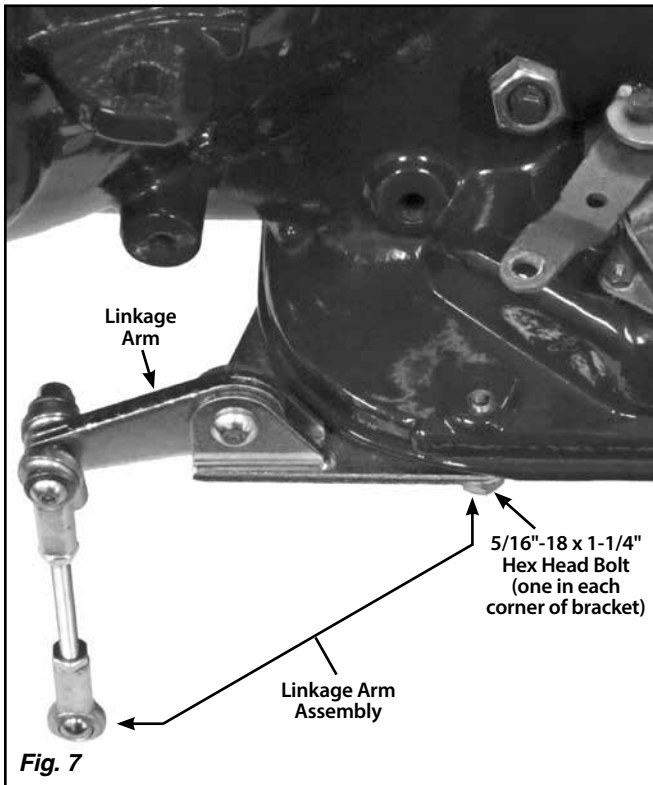

Fig. 7
**Step 9:** Remove the forward-most bolt from the driver side of the transmission pan, and the bolt furthest to the driver side on the front of the transmission pan. Remove the masking tape from the 5/16"-18 x 1-1/4" bolts on the provided linkage arm assembly. Install the linkage arm assembly onto the underside of the front driver side corner of the transmission pan. Install one of the rod ends onto the end of the short threaded rod. **Fig. 7**